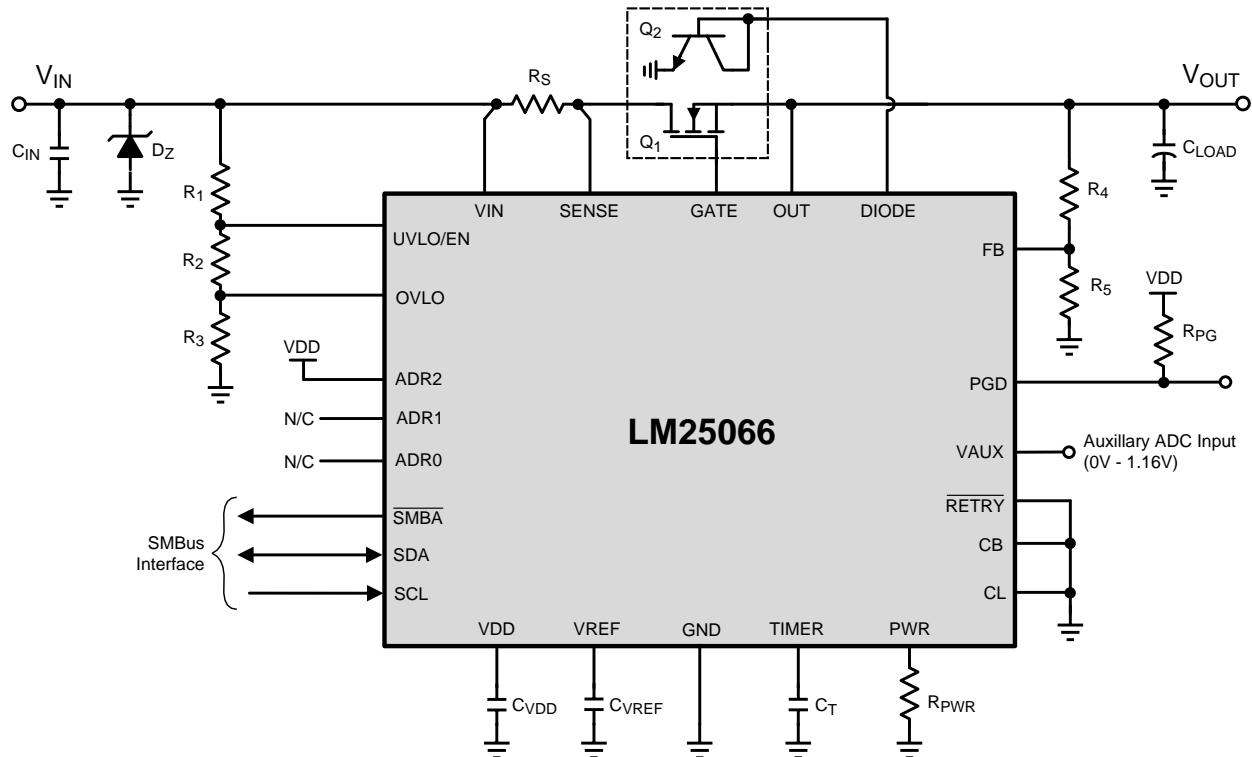
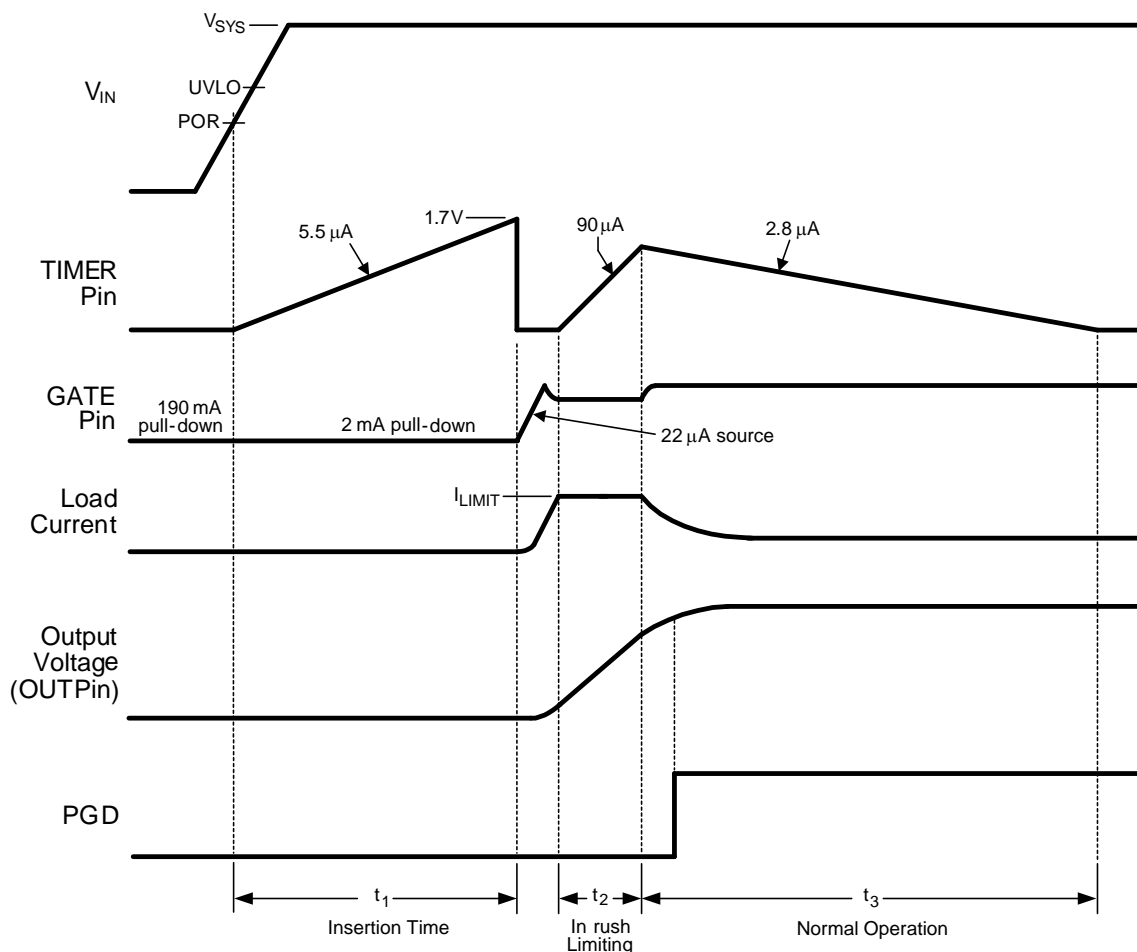

Figure 32. Typical Application Circuit
Figure 33. Power Up Sequence (Current Limit Only)
The VIN operating range of the LM25066 is +2.9V to +17V, with transient capability to +24V. Referring to Figure 32 and Figure 33, as the voltage at VIN initially increases, the external N-channel MOSFET (Q₁) is held off by an internal 190 mA pull-down current at the GATE pin. The strong pull-down current at the GATE pin prevents an inadvertent turn-on as the MOSFET's gate-to-drain (Miller) capacitance is charged. Additionally, the TIMER pin is initially held at ground. When the VIN voltage reaches the POR threshold, the insertion time begins. During the insertion time, the capacitor at the TIMER pin (C_T) is charged by a 5.5 μA current source and Q₁ is held off by a 2 mA pull-down current at the GATE pin regardless of the input voltage. The insertion time delay allows ringing and transients at VIN to settle before Q₁ is enabled. The insertion time ends when the TIMER pin voltage reaches 1.7V. C_T is then quickly discharged by an internal 1.9 mA pull-down current. The GATE pin then switches on Q₁ when V_{SYS}, the input supply voltage, exceeds the UVLO threshold. If V_{SYS} is above the UVLO threshold at the end of the insertion time, Q₁ switches on at that time. The GATE pin charge pump sources 22 μA to charge the gate capacitance of Q₁. The maximum voltage at the GATE pin with respect to ground is limited by an internal 18.8V zener diode.
As the voltage at the OUT pin increases, the LM25066 monitors the drain current and power dissipation of MOSFET Q₁. Inrush current limiting and/or power limiting circuits actively control the current delivered to the load. During the inrush limiting interval (t₂ in Figure 33), an internal 90 μA fault timer current source charges C_T. If Q₁'s power dissipation and the input current reduce below their respective limiting thresholds before the TIMER pin reaches 1.7V, the 90 μA current source is switched off and C_T is discharged by the internal 2.8 μA current sink (t₃ in Figure 33). The PGD pin switches high when FB exceeds its rising threshold of 1.167V.
A charge pump provides the voltage at the GATE pin to enhance the N-Channel MOSFET's gate. During normal operating conditions (t_3 in Figure 33) the gate of Q_1 is held charged by an internal 22 μA current source. The voltage at the GATE pin (with respect to ground) is limited by an internal 18.8 V zener diode. See the graph "GATE Pin Voltage" in Typical Performance Characteristics. Since the gate-to-source voltage applied to Q_1 could be as high as 18.8 V during various conditions, a zener diode with the appropriate voltage rating must be added between the GATE and OUT pins if the maximum V_{GS} rating of the selected MOSFET is less than 18.8 V. The external zener diode must have a forward current rating of at least 190 mA. When the system voltage is initially applied, the GATE pin is held low by a 190 mA pull-down current. This helps prevent an inadvertent turn-on of the MOSFET through its drain-gate capacitance as the applied system voltage increases.
During the insertion time (t_1 in Figure 33) the GATE pin is held low by a 2 mA pull-down current. This maintains Q_1 in the off-state until the end of t_1 , regardless of the voltage at V_{IN} or UVLO . Following the insertion time (t_2 in Figure 33), the gate voltage of Q_1 is controlled to keep the current or power dissipation level from exceeding the programmed levels. While in the current or power limiting mode, the TIMER pin capacitor is charging. If the current and power limiting cease before the TIMER pin reaches 1.7V, the TIMER pin capacitor then discharges,
When the current limit or power limit threshold is reached during turn-on, or as a result of a fault condition, the gate-to-source voltage of Q_1 is controlled to regulate the load current and power dissipation in Q_1 . When either limiting function is active, a 90 μ A fault timer current source charges the external capacitor (C_T) at the TIMER pin as shown in Figure 33 (Fault Timeout Period). If the fault condition subsides during the Fault Timeout Period before the TIMER pin reaches 1.7V, the LM25066 returns to the normal operating mode and C_T is discharged by the 1.9 mA current sink. If the TIMER pin reaches 1.7V during the Fault Timeout Period, Q_1 is switched off by a 2 mA pull-down current at the GATE pin. The subsequent restart procedure then depends on the selected retry configuration.
A) Insertion Delay -Upon applying the system voltage (V_{SYS}) to the circuit, the external MOSFET (Q_1) is held off during the insertion time (t_1 in Figure 33) to allow ringing and transients at V_{SYS} to settle. Since each backplane's response to a circuit card plug-in is unique, the worst case settling time must be determined for each application. The insertion time starts when VIN reaches the POR threshold, at which time the internal 5.5 μA current source charges C_T from 0V to 1.7V. The required capacitor value is calculated from: